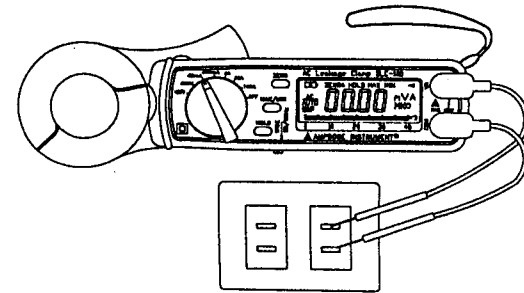

Fig. 7
3. Rotate the rotary selector switch to the 400V position (see Fig.7)
2. Insert the test leads into the meter as in Fig.7.